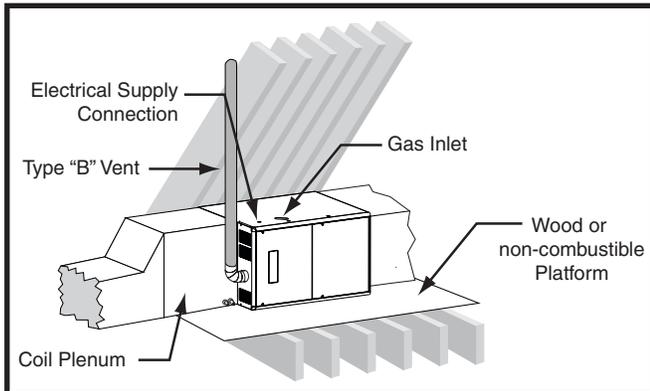
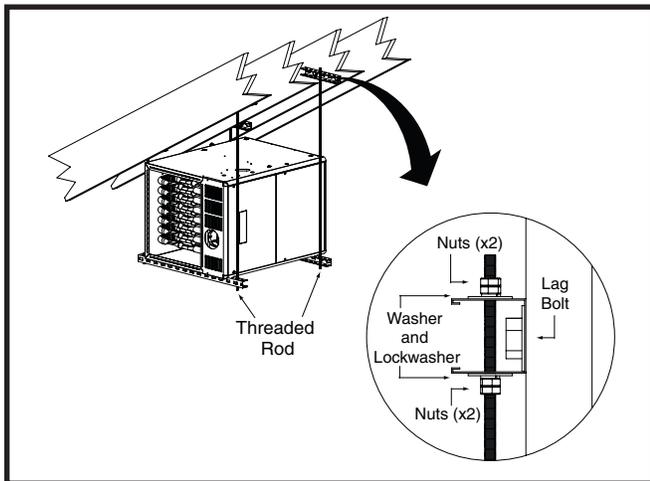

Figure 7. \*SA Horizontal Installed on a Platform
Figure 8. \*SA Horizontally Suspended in Attic
- The \*SA series gas furnace can be installed horizontally (Figure 7) in an attic, basement, crawl space or alcove. It can also be suspended from a ceiling in a basement or utility room in either a right to left airflow or left to right airflow as shown in Figure 8, \(page 12\).
- If installing the furnace with an evaporator coil (in an attic), it is required that a drip pan be placed under the furnace. If the installation is on a combustible platform (Figure 7), it is recommended that the drip pan extend at least 12 inches past the top and front of the furnace. **NOTE:** Although it is not required to use a drip pan for heat only applications, state and local codes may require it.
- If suspending the furnace from the ceiling, assemble a support frame (Figure 8) using slotted iron channel and full